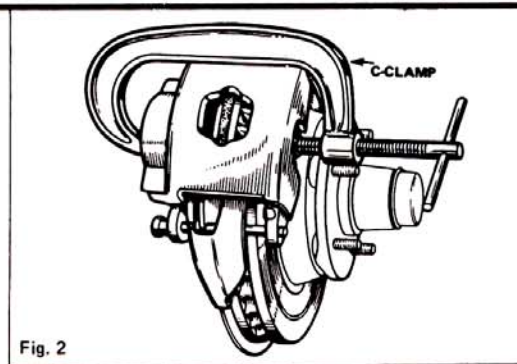

Fig. 2
3. Position a 7-inch C-Clamp on the caliper as shown in Fig. 2. Tighten clamp until caliper moves out far enough to bottom caliper piston in cylinder bore. Then remove C-Clamp.